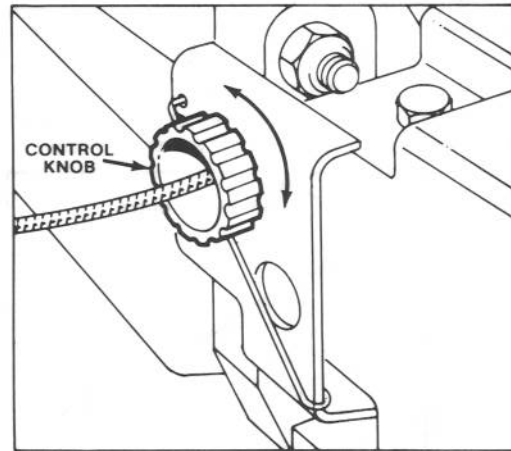

Figure 15
2. ADJUSTMENT (Fig. 15) — Rotate control knob clockwise 1/2 turn if mower does not self-propel. If mower creeps forward, rotate knob 1/2 turn counterclockwise to loosen belt.